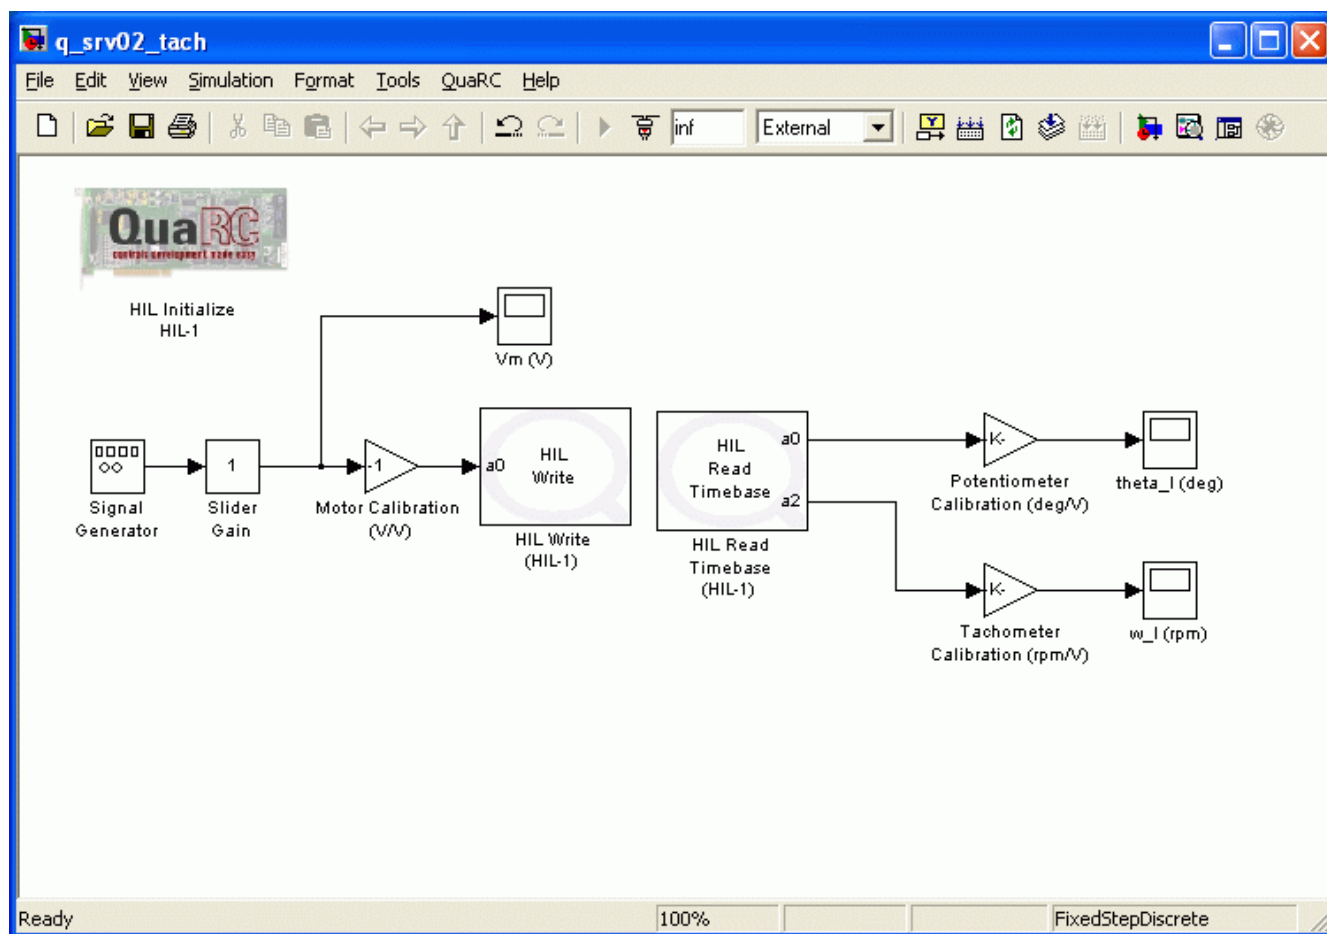

Figure 10: Simulink model used to send voltage to SRV02 and read its potentiometer and tachometer sensors.
4. Connect the Scope and Gain blocks as depicted in Figure 10, above. That is, connect the Gain block to the output of Channel #2 from the HIL Read Timebase block and label it *Tachometer Calibration (rpm/V)*. Then, connect the output of this gain block to the input of the Scope block and label the scope *w_l (rpm)*. This scope will display the measured speed of the load gear in thousand revolutions per minute.
6. Open the *V_m (V)* and the *w_l (rpm)* scopes.